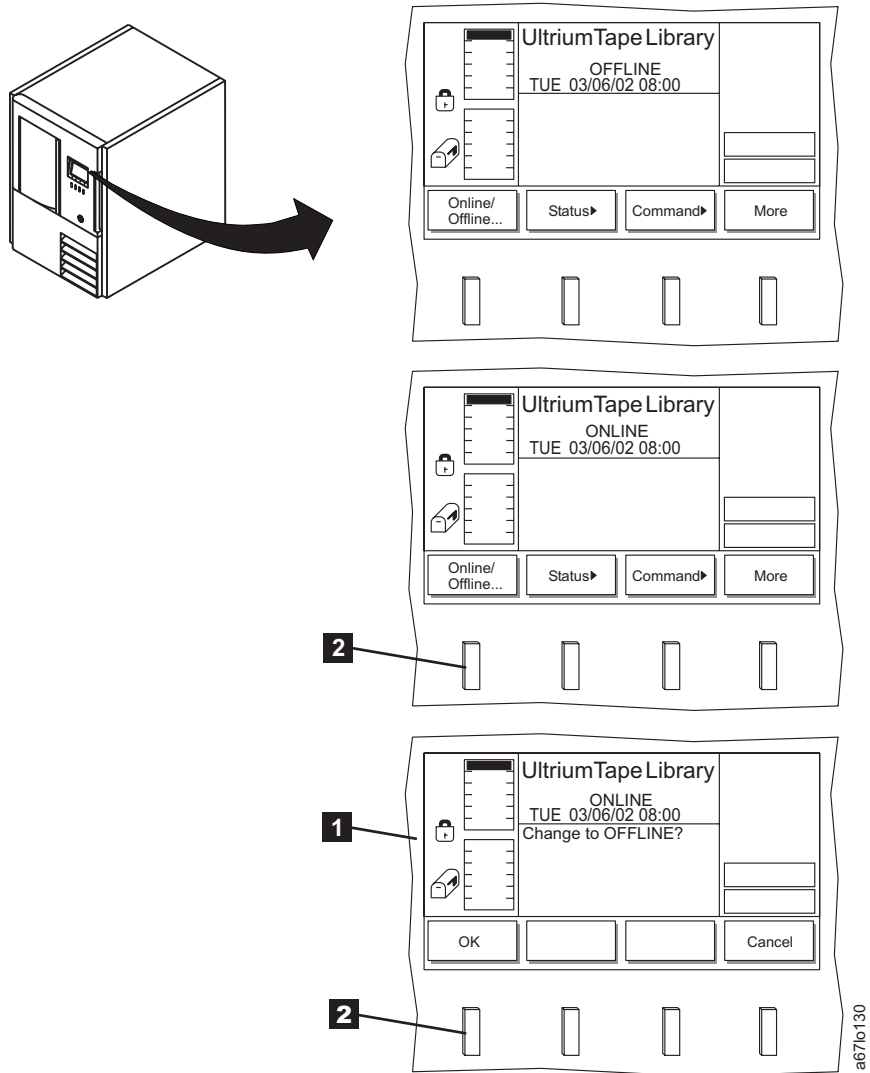

Figure 14-4. Operator panel
5. The library firmware automatically initializes and starts the inventory/teach process. The Operator Control Panel display changes to reflect which power-on operation is in progress. The library initially comes up in offline mode as shown in the topmost screen in Figure 14-4, and then automatically changes to online mode as shown in the middle screen. **Be sure to wait until the library is in online mode before pressing any buttons.** When prompted to change to offline mode (**1** in Figure 14-4), press the button **2** below the **Online/Offline** softkey. Follow the instructions on the screen, then push the button **2** below the **OK** softkey as shown in the bottommost screen in Figure 14-4.